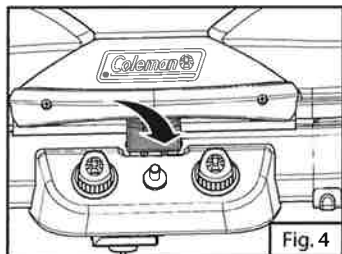
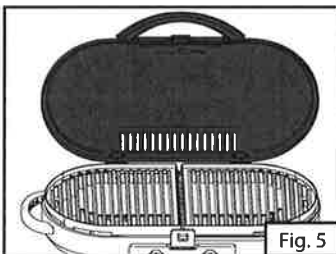

Fig. 4
Fig. 5
3. Pull outward to release the lid latch, and open the lid. (Fig. 4 and Fig. 5)